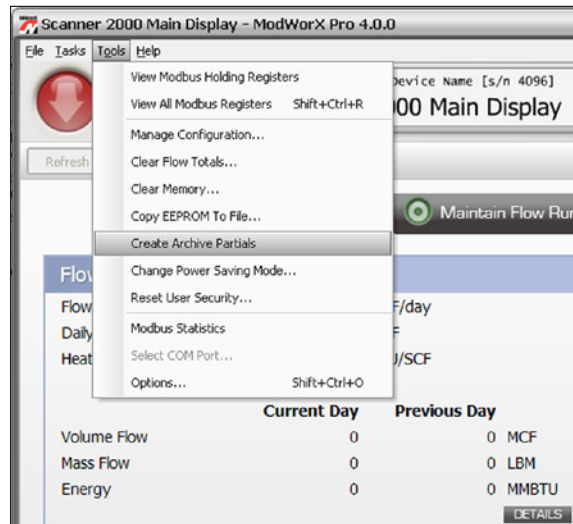

Figure A.10
1. Click **Tools>Create Archive Partials** in the task bar (Figure A.10, page A-8).